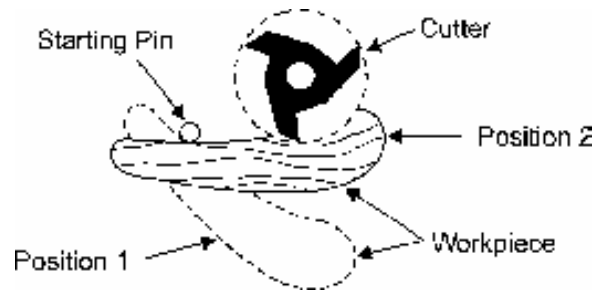

Figure 42
When the workpiece is not contoured all around, start the cut as shown in Figure 42. With this operation, the workpiece is positioned against the starter pin and the end swung into place to start the cut. When the cut has begun and the workpiece firmly against the collar, swing the stock away from the pin and proceed with cut.
- The work should be placed in the *position 1*, (Figure 42), using the starting pin as a support